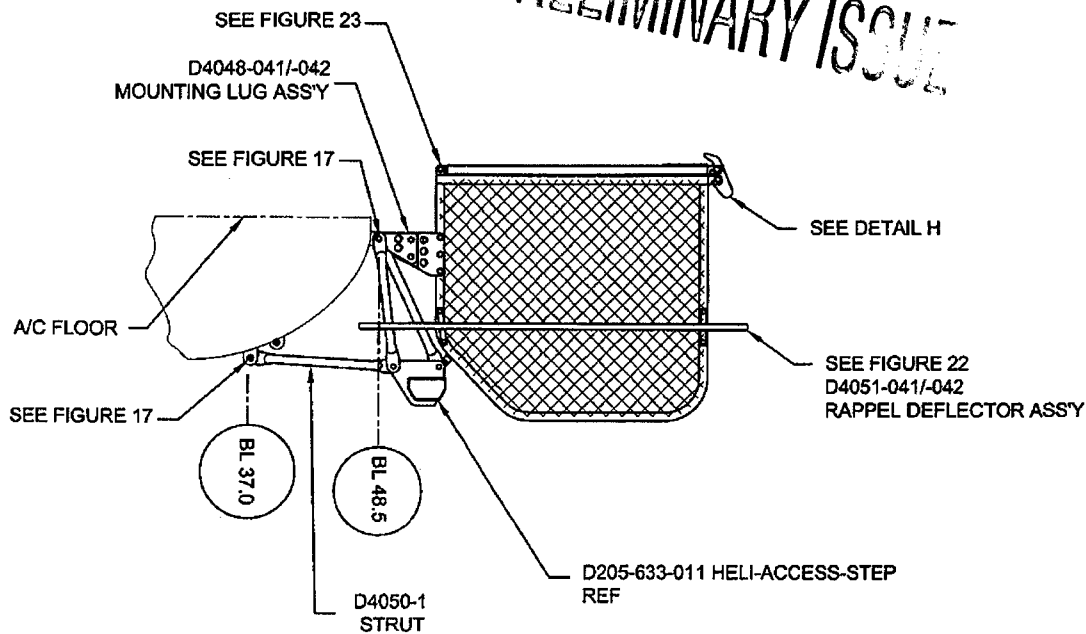

Figure 14a – Section A-A Looking Aft at STA 129
- 3.4.1 If not already installed, install the D4048-041/-042 (STA 129.00), D4048-5/-6 (STA 155.06), D4048-7/-8 (STA 179.5) mounting lugs onto the basket as shown in Figure 17, 18 and 19. Refer to Figures 14a, 14b and 14c for mounting lug locations. Install D4050-1/-3/-5/-8 struts onto the basket as shown in Figure 17, 18 and 19.
- 3.4.2 Loosely install the D205-541-141/-142 *Heli-Utility-Basket™* onto the aircraft hard points at STA 129 and STA 155 using the D4048-041/-042 and D4048-5/-6 Mounting Lugs as shown in Figures 14a and 14b. This will allow the D4049-041/-042 Mounting Lug Assembly and D4049-5/-8 Mounting Lug to be properly located and installed on the aircraft per Figure 14c. Remove Step strut D2562-001 (D205-633-011 Step) or D2562-007 (D205-633-017 Step) if installed to allow the installation of the D4050-1 strut at STA 129.0 as shown Figure 17. Replace with D2562-011 strut or D2562-013 strut as applicable per DSI 9302.